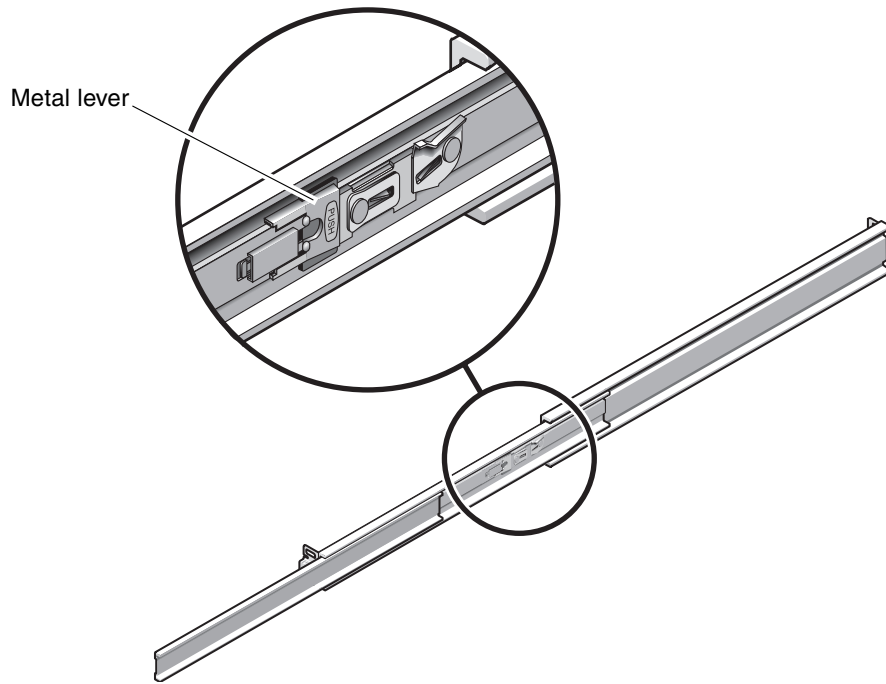

FIGURE 2-3 Unlocking the Slide Rail Middle Section
- d. Press the metal lever (labeled Push) on the middle section (FIGURE 2-3) of the sliding rail, then push the middle section back into the rack.